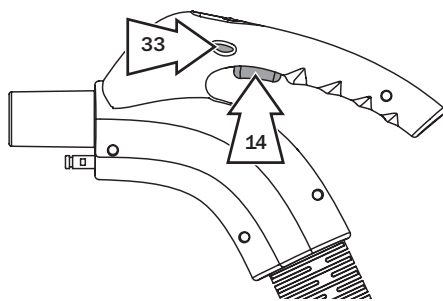

fig. 10
- Push lever 14 (fig. 10) on the handle and start cleaning; to interrupt the steam flow release the lever.
- If you have to temporarily leave the machine unattended, block the steam lever pressing button 33 (fig. 10).